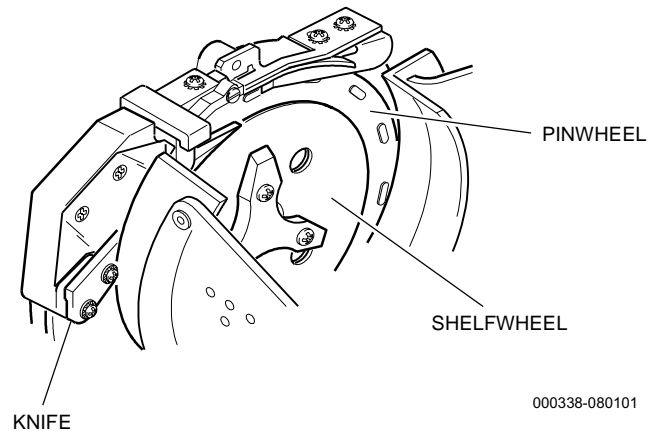

Figure 9-2. Hopper Knife Adjustment
2. Inspect the knife blade for damage and check to see that the knife tip rests lightly against the shelfwheel and the pinwheel. Refer to Figure 9-2 for hopper knife adjustment. Make certain the knife is fastened securely.
See Figure 9-2 and proceed as follows.